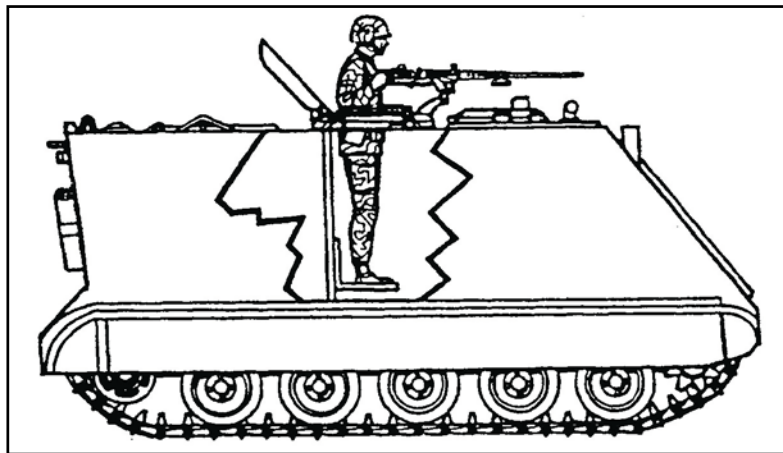

Figure 071-313-3454-4. Standing position (cupola mount)
e. Standing position for high-mobility, multipurpose wheeled vehicle (HMMWV)-mounted gun (figure 071-313-3454-5).